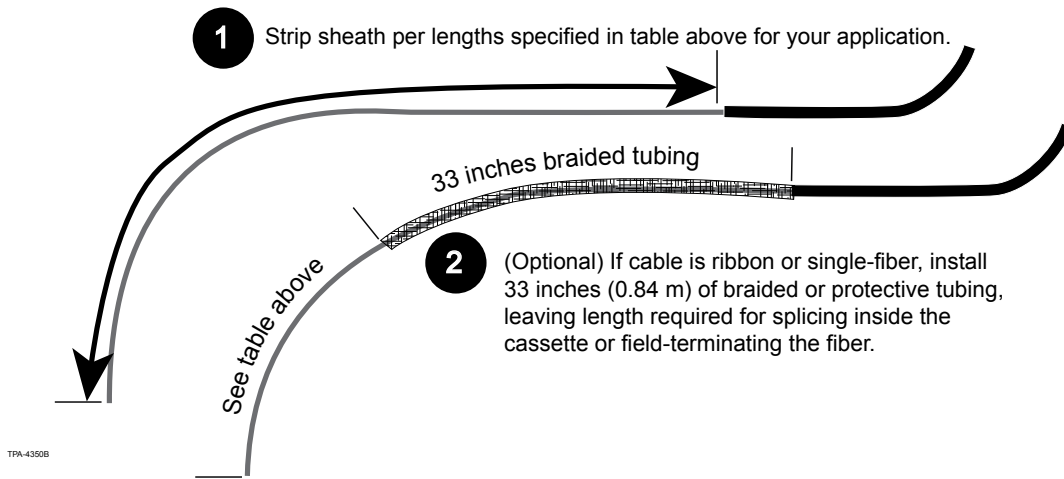

Figure 6
- Step 1:** Prepare the cable as described in Section 3 and as shown in Figure 6 for your application.